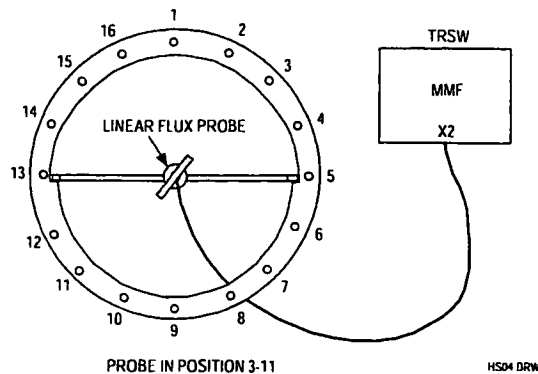

Figure 3 Frequency adjustment mode 3 - 11 (front view)
Position the **linear flux probe** with use of the rotation knob in the QBC flux probe holder horizontal in the center of the QBC. Connect the cable of the flux probe to tune A signal at connector MMFX2. The cable should leave the magnet via the backside to prevent coupling with the hybrid box. See Figure 3.
2. Position the flux probe in position 3-11 (Figure 3).